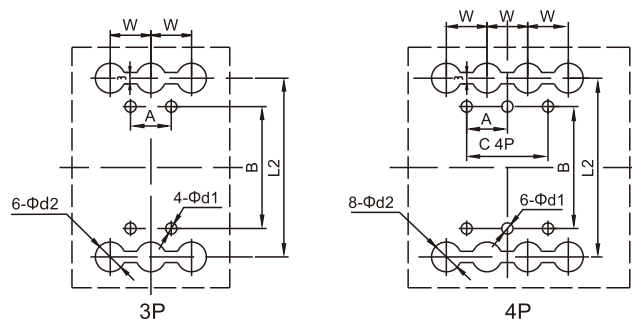

Fig. 9 RDM1 Rear wiring hole-opening dimension
6.3 Rear wiring installation hole-opening dimension, see Fig. 9